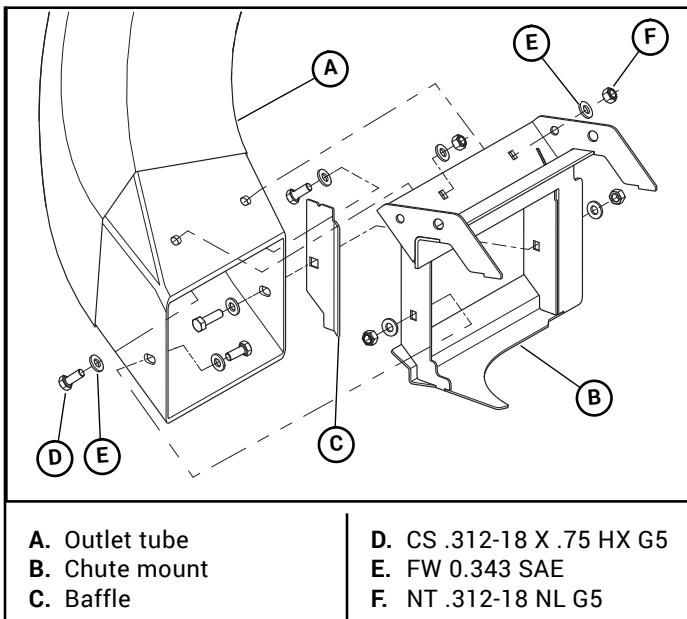
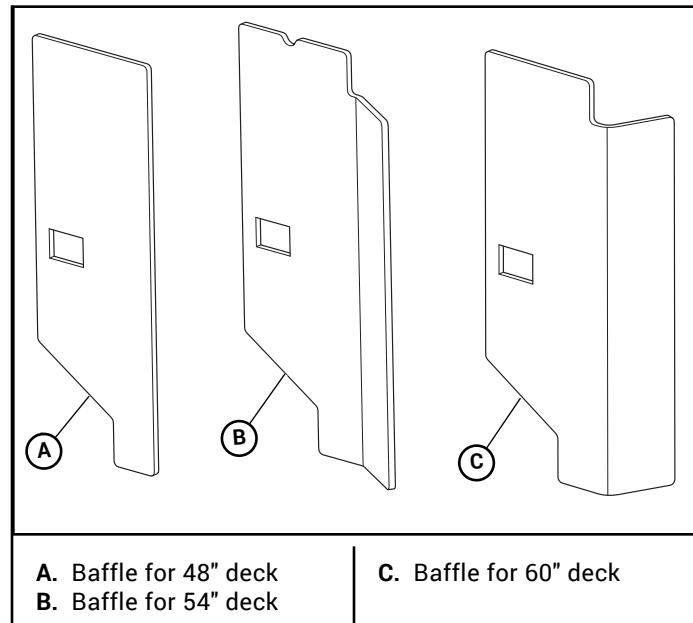
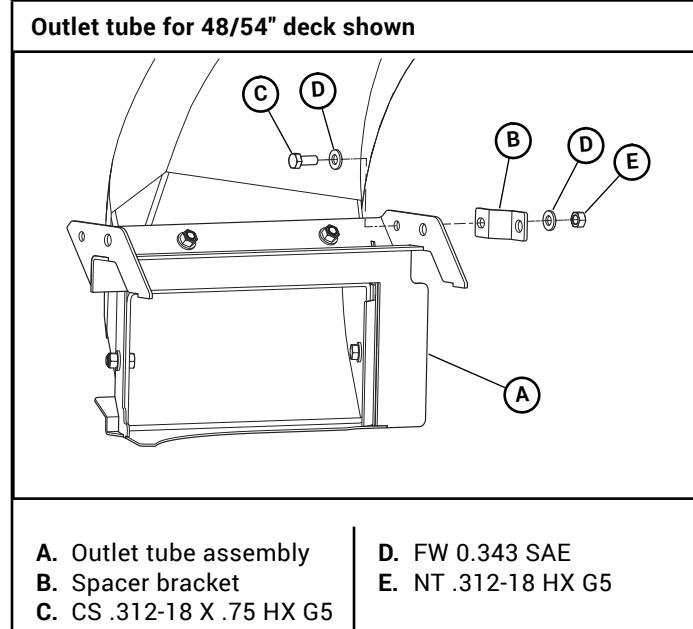
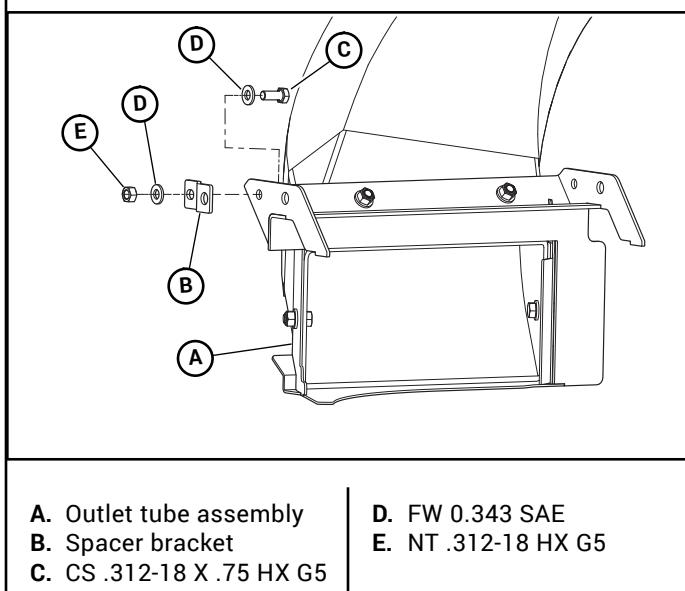

Figure 3-24
Figure 3-25
Figure 3-26
Figure 3-27
33. Assemble the end of the outlet tube with the hardware provided. Each deck size has a different baffle. Figure 3-24, Figure 3-25, Figure 3-26 & Figure 3-27